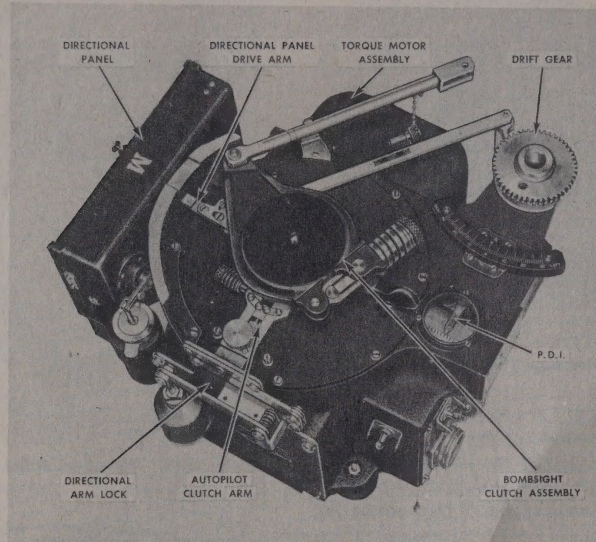

Fig. 39—Directional Stabilizer (Bombardier's Turn Knob Not Shown)
b. DIRECTIONAL STABILIZER—The Directional Stabilizer, Fig. 39, is located in the nose of the airplane. Its flight control function is to detect and measure directional deviations of the airplane, and to move the slide of the attached Directional Panel in the proper direction proportional to the deviation. The pots within the Directional Panel transform this motion into electrical signals which control the operation of the C-1 Autopilot System to hold the airplane on an established heading.